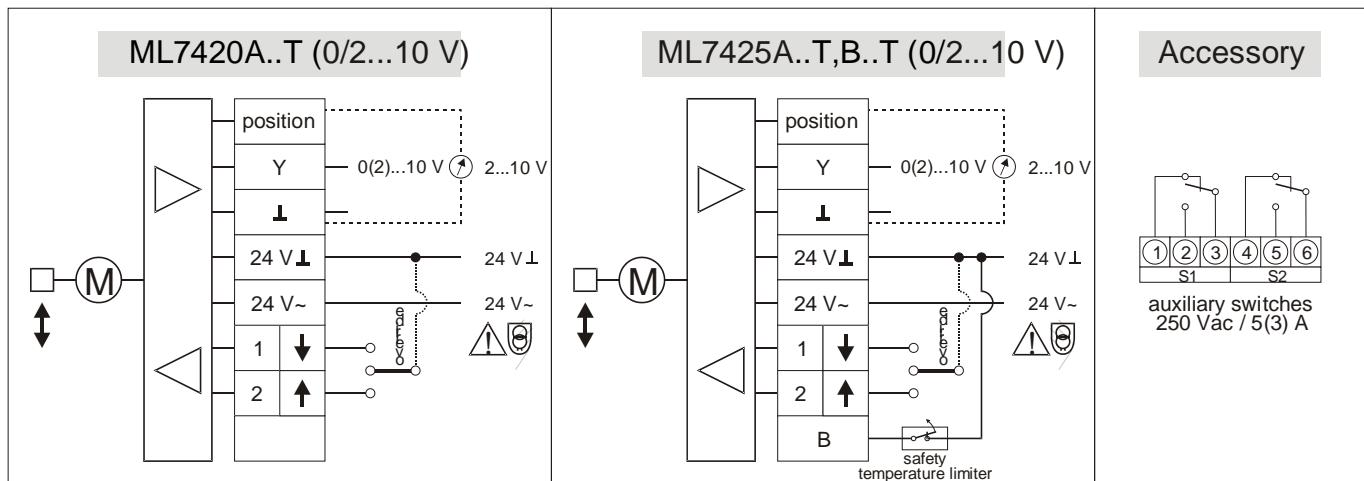

Fig. 3. Wiring
All actuators have an integrated override function (see also Fig. 3). When the override signal is applied, the actuator drives to the fully-open or fully-closed position, regardless of the controller signal.
**NOTE:** To avoid malfunction, it is necessary to connect 24 Vac power and ground (see Fig. 3 on page 4).